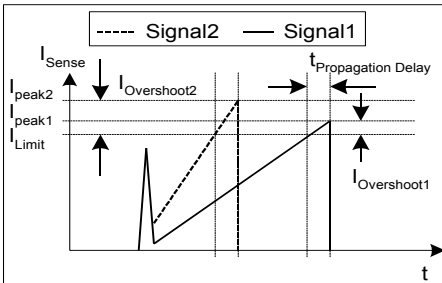

Figure 16 Current Limiting
So current limiting is now capable in a very accurate way (see Figure 16).
E.g. $I_{peak} = 0.5A$ with $R_{Sense} = 2$. Without propagation delay compensation the current sense threshold is set to a static voltage level $V_{csth}=1V$. A current ramp of $dI/dt = 0.4A/\mu s$, that means $dV_{Sense}/dt = 0.8V/\mu s$, and a propagation delay time of i.e. $t_{Propagation Delay} = 180ns$ leads then to a I_{peak} overshoot of 12%. By means of propagation delay compensation the overshoot is only about 2% (see Figure 16).